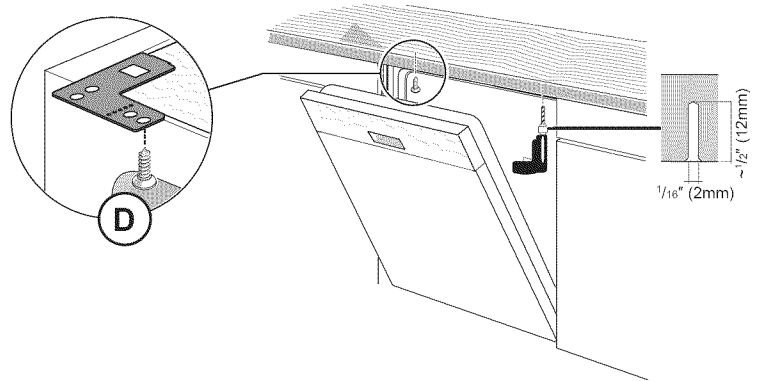

Figure 19
1. Drive the mounting screws through the holes in the mounting brackets as shown for Top (**Figure 18**), Side Mount (**Figure 19**) and Alternate Side Mount (**Figure 20**).